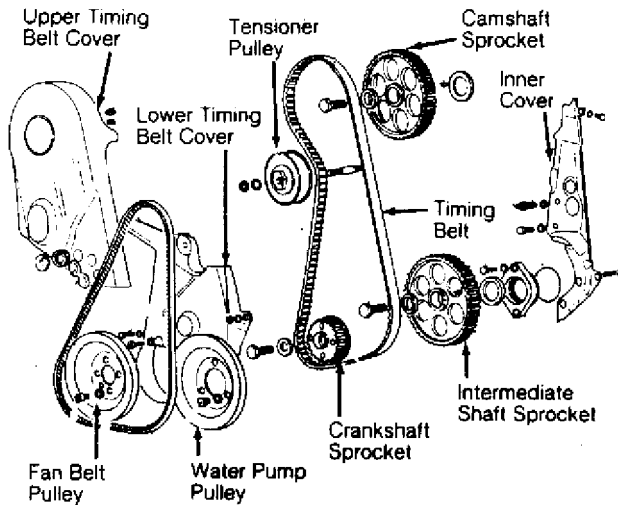

Fig. 6: Exploded View of Timing Belt Components
Information not available from manufacturer. Use exploded view for component locations. See Fig. 6. Match mark all components to ensure reassembly to original position.
1) Remove upper timing belt cover. See Fig. 6. Remove valve cover. Place crankshaft at TDC with No. one cylinder on compression
1) Remove upper timing belt cover. See Fig. 6. Remove valve cover. Place crankshaft at TDC with No. one cylinder on compression stroke. Remove timing belt from camshaft sprocket. Remove camshaft sprocket. Remove Woodruff key. Check camshaft end play with cam followers removed and bearing cap Nos. 1 and 4 (exhaust cam) or 5 and 8 (intake cam) installed. See CAMSHAFT SPECIFICATIONS table at the end of this article.